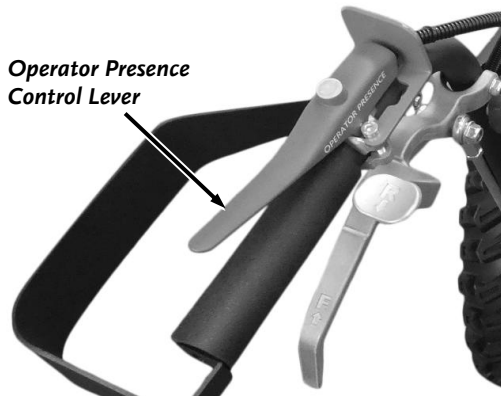

Figure 18
Releasing the Operator Presence Control Lever with the Blade engaged will stop the Engine (**Figure 18**). If the Blade is not engaged, releasing the Operator Presence Control Lever will not stop the Engine.
1. With the Engine running, hold the Operator Presence Control Lever down to the Grip with your left hand without touching the Drive Levers. (Figure 18).